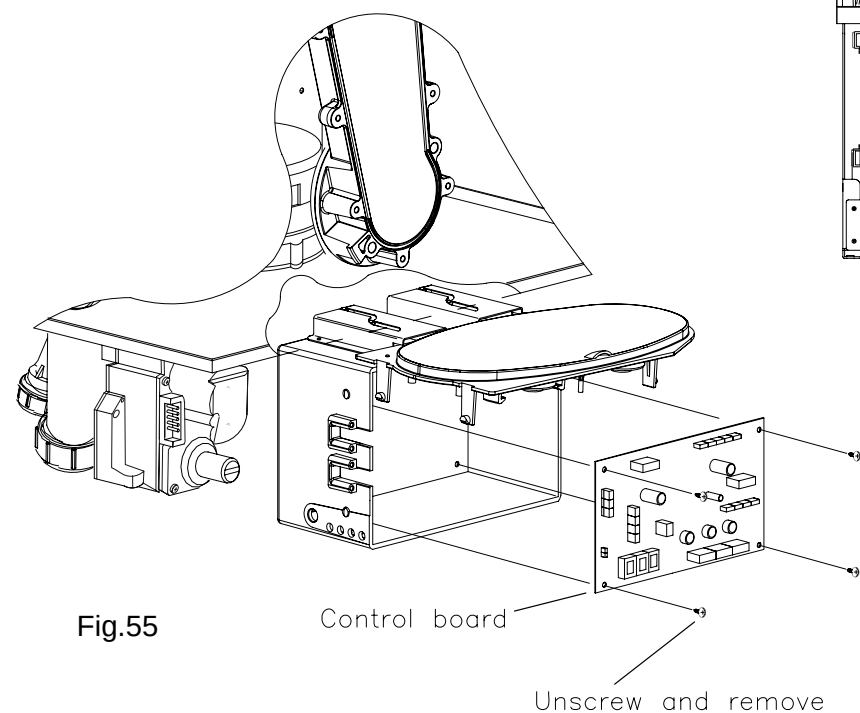

Fig.55
**8.17 TO REMOVE/REPLACE CONTROL BOARD (Fig.55).**
**8.17.3** Detach the PCB board from its base by unscrewing the four securing screws. (Fig. 55).